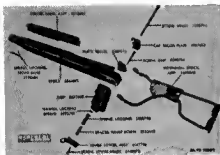

Figure 105. Stock assembly 6544072 and hand guard assembly 6212602 for carbine M1A1.
a. Stock Extension (Fig. 105).
- (1) Remove lower hinge screw from lower end of stock grip by turning counterclockwise.
- (2) With stock extension in extended position, unscrew the hinge screw projecting from the upper face of the recoil plate cap by turning counterclockwise. When screw is disengaged from the lower hinge nut, pull screw up and out of grip and then lift off recoil plate cap and lower hinge.
- (3) With flat-ended punch, push hinge screw spacer out of hole in the lock on end of lower bar up into coil spring. Then pull stock extension to rear from stock and remove grip spring, hinge screw spacer and trip spring washer from countersunk hole in lower end of grip. Take care that spring does not fly out or washer does not become lost.
- (4) Remove grip and recoil plate by unscrewing the grip screw counterclockwise from top of recoil plate.
m. Inspect cheek rest plate and retaining plate for deformation and looseness with each other on the bars when assembled. Inspect rivets for looseness and protrusion of heads. Inspect cheek rest cover for scoring and cracking of leather. Cheek rest plate should be held tightly to bars by retaining plate and rivets, and leather cover, on the stock extension assembly (Fig. 105), should be smooth, so it will not scrape face of operator.